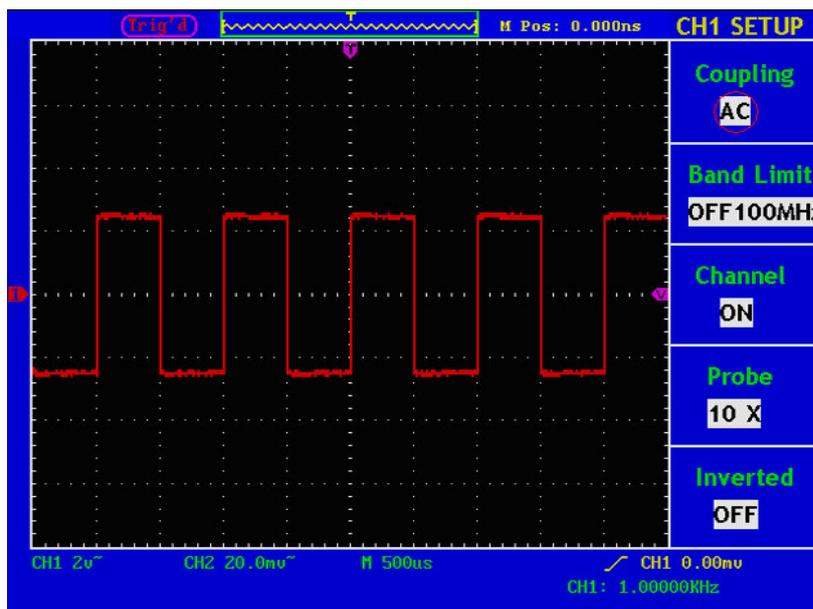
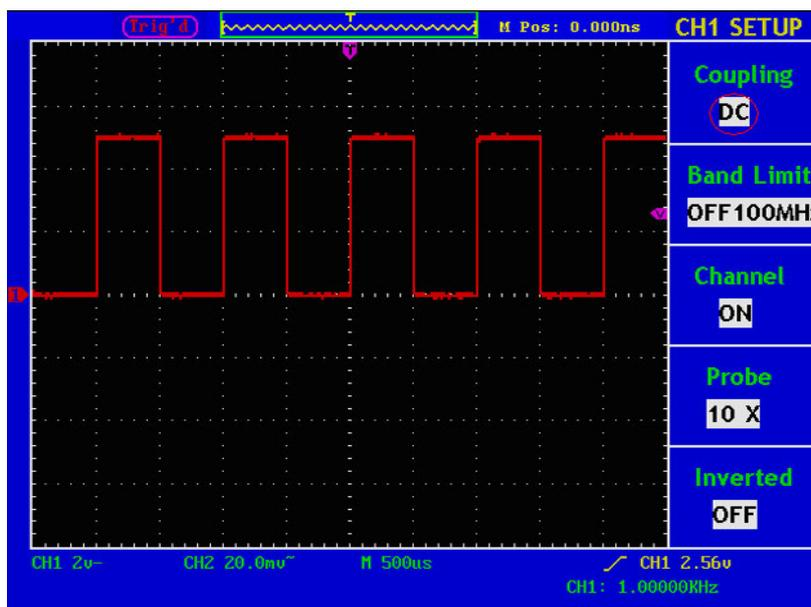

Figure 22. Channel Setting Menu.
Figure 23. Channel Setting Menu.
- Press **F1** next to Coupling and select "AC", now DC component is blocked from input signal. See Figure 22.
- Press **F1** again to set "DC" mode, both AC and DC components get passed. See Figure 23.
The wave forms are shown as Figure 22. and Figure 23.